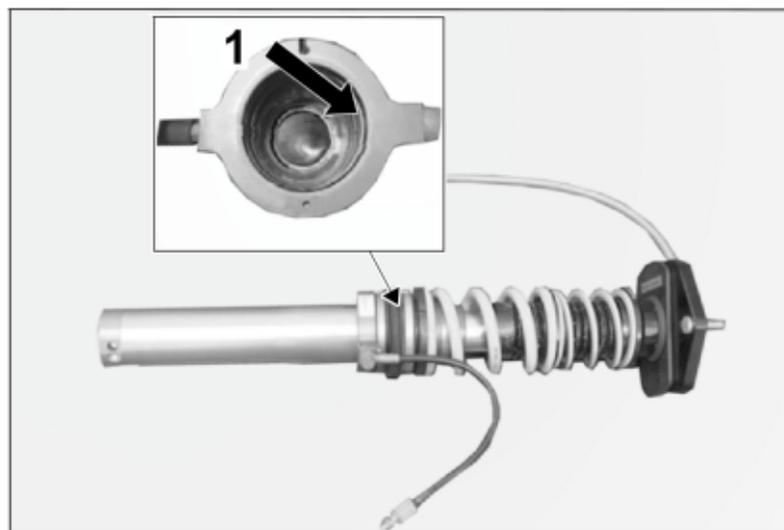

Figure 7
- 5. – Mount the strut housing. Make sure that the white plastic disc in the lift unit ⇒ Figure 7 -1- is positioned almost centrally. Otherwise, it may become damaged during assembly! To assemble, set up the damper unit with the piston rod pointing upwards and assemble the housing from above!